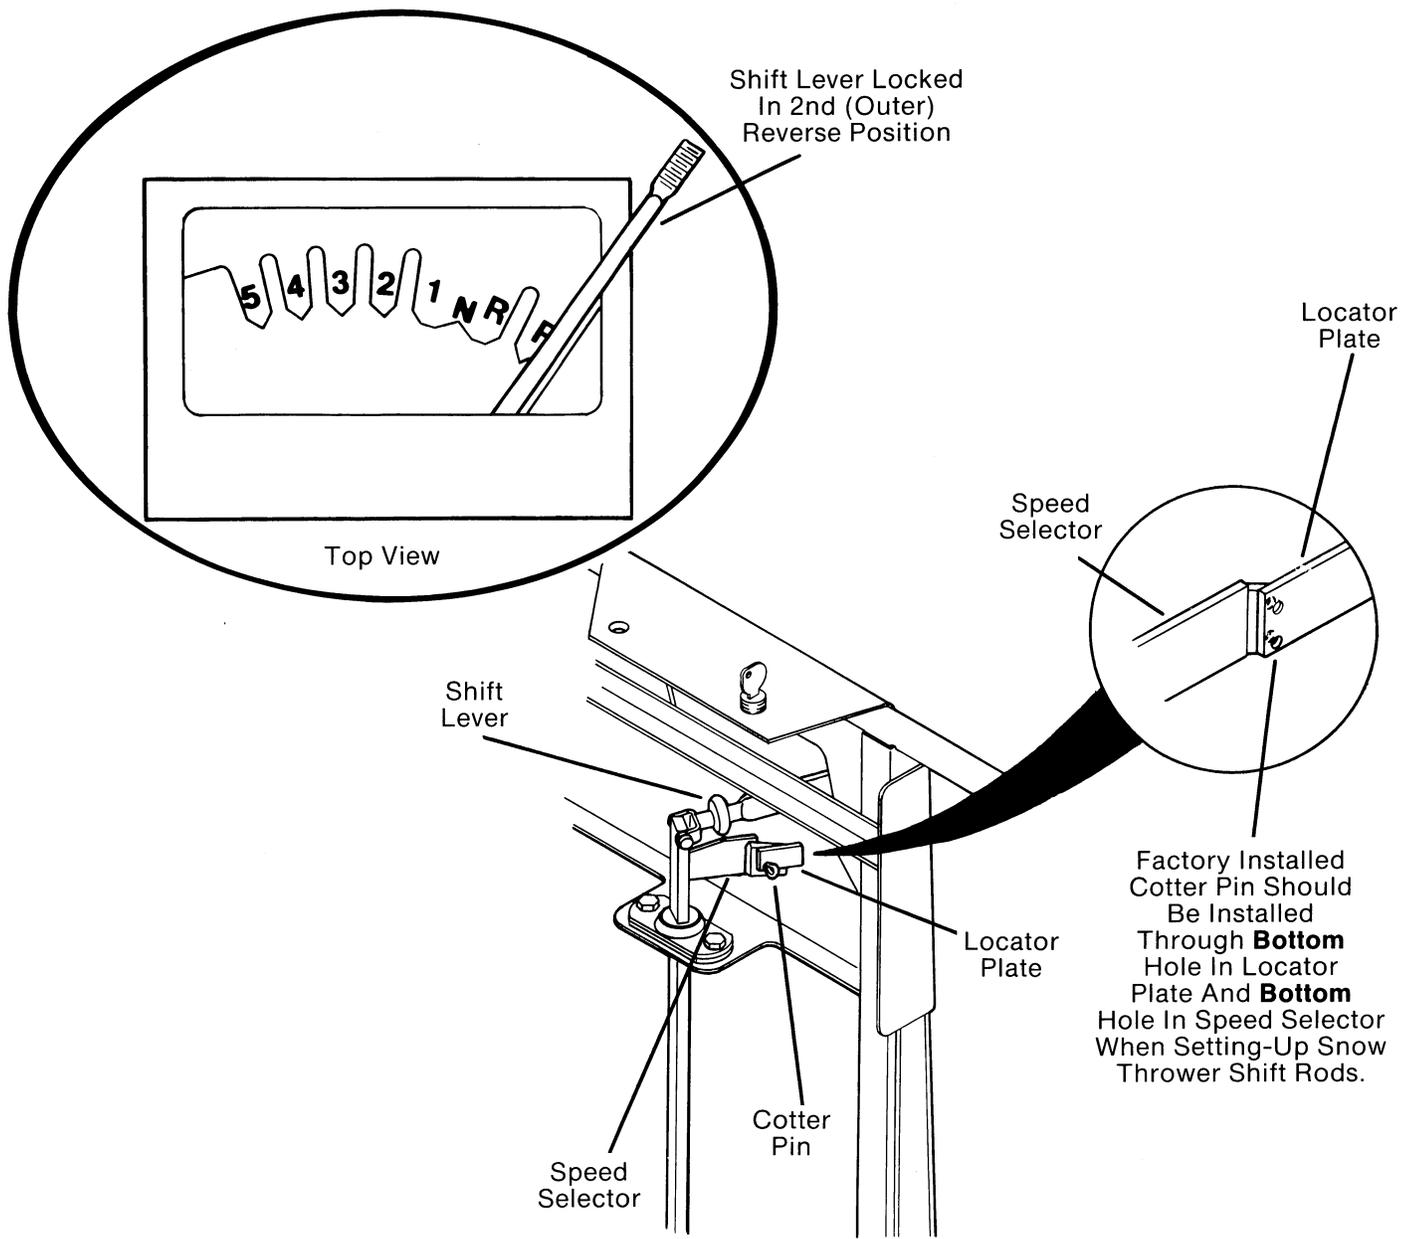

FIG. 3
- C. For correct adjustment of shift rods, check backside of handle panel to be sure that the factory installed cotter pin is still in the correct position. (Fig. 3) This cotter pin locks the speed selector and shift lever in the 2nd (outer) reverse position. **DO NOT REMOVE COTTER PIN AT THIS TIME.**
**IMPORTANT:** If cotter pin has been removed, place shift lever in the 2nd (outer) reverse position (circled illustration Fig. 3). Line up **bottom** hole in locator plate with **bottom** hole in speed selector (circled illustration) (Fig. 3).
- G. At this time remove the cotter pin shown in (Fig. 3). Keep this cotter pin for possible future readjustment of traction speed control.